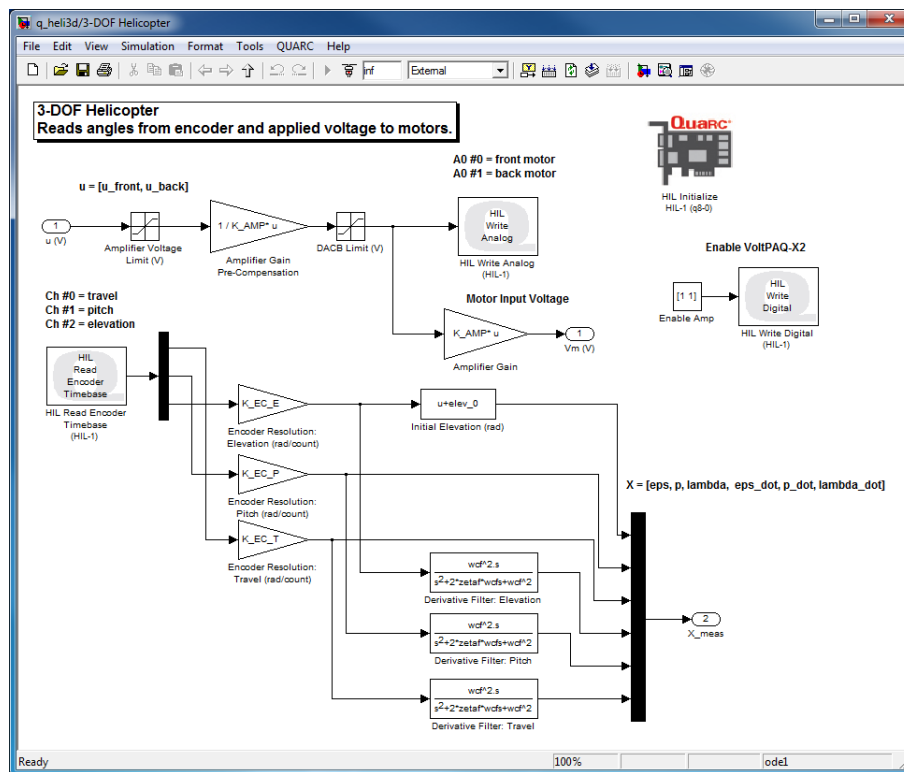

Figure 5.3: 3 DOF Helicopter subsystem used to interface with hardware.
5. Open the 3 DOF Helicopter subsystem shown in Figure 5.3. It contains the QUARC blocks that interface with the hardware of the actual plant. The Analog Output block outputs the voltage computed by the controller to the DACB and the Encoder Input block reads the encoder measurements.
6. **Configure DAQ:** Double-click on the *HIL Initialize* block in the Simulink diagram and ensure it is configured for the DAQ device that is installed in your system. By default the block shown in Figure 5.3 is setup for the Quanser Q8 hardware-in-the-loop board.